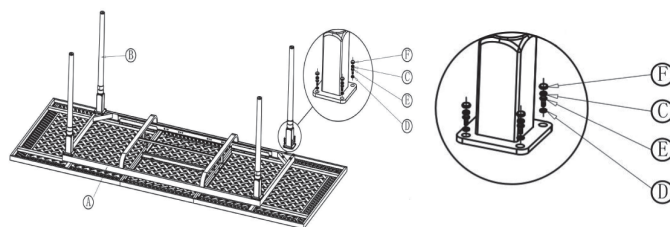

Figure1
Step 1. Carefully place the table top frame (A) upside down on a non-abrasive surface. Assemble the table legs (B) to the table top (A) with Hex Head bolts (C) , M6 Spring Washer (E) and washers (D) by Wrench (G), then cover the bolts with bolt cap (F) as show in Figure1.